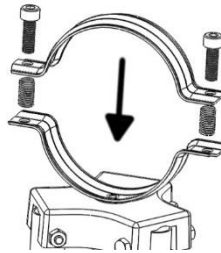

Figure 2
- b. Rotate top half of clamp 180 degrees and *loosely* re-install springs and bolts (Fig. 2).